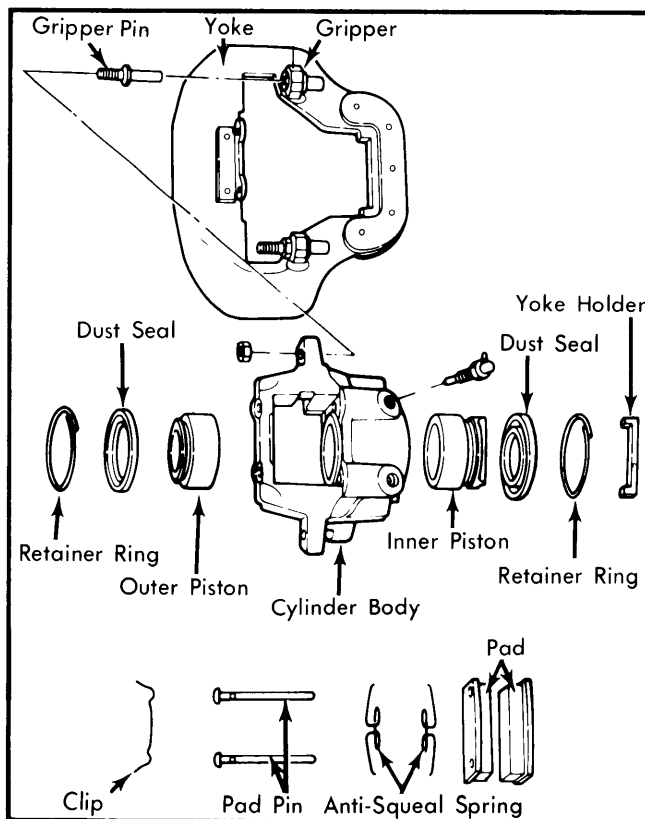

Fig. 1 Exploded View of Datsun 510 Front Disc Brake Assembly
Disassembly — 1) Remove brake fluid from caliper cylinder body. Remove brake pads as previously outlined. Remove gripper pin mounting nuts. See Fig. 1.
2) Fit dust seals into position and secure with retainer rings. Install yoke holder to inner piston (See Fig. 1). Place gripper on yoke and drive in gripper pin. Install yoke to yoke holder while supporting outer piston, then press yoke into holder with a force not to exceed 60 lbs. (27 kg).